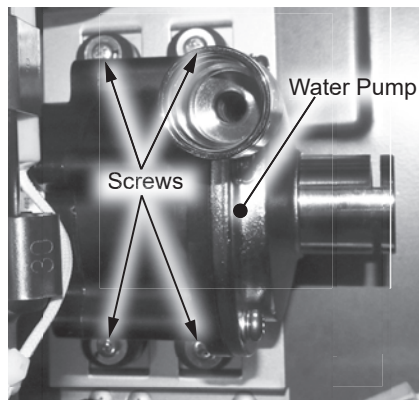

Figure 186 - Water pump screw locations
engage bracket threads. Do not remove screws from gasket boots. See Figure 186.
- 15 Locate the two heater blocks attached to HEX inlet tube as shown in Figure 186. Remove brackets (size 20) securing heater blocks to tube. Place brackets aside in a safe place for reinstallation. Route heater blocks and wiring inside water heater cabinet for ease of HEX inlet tube removal.